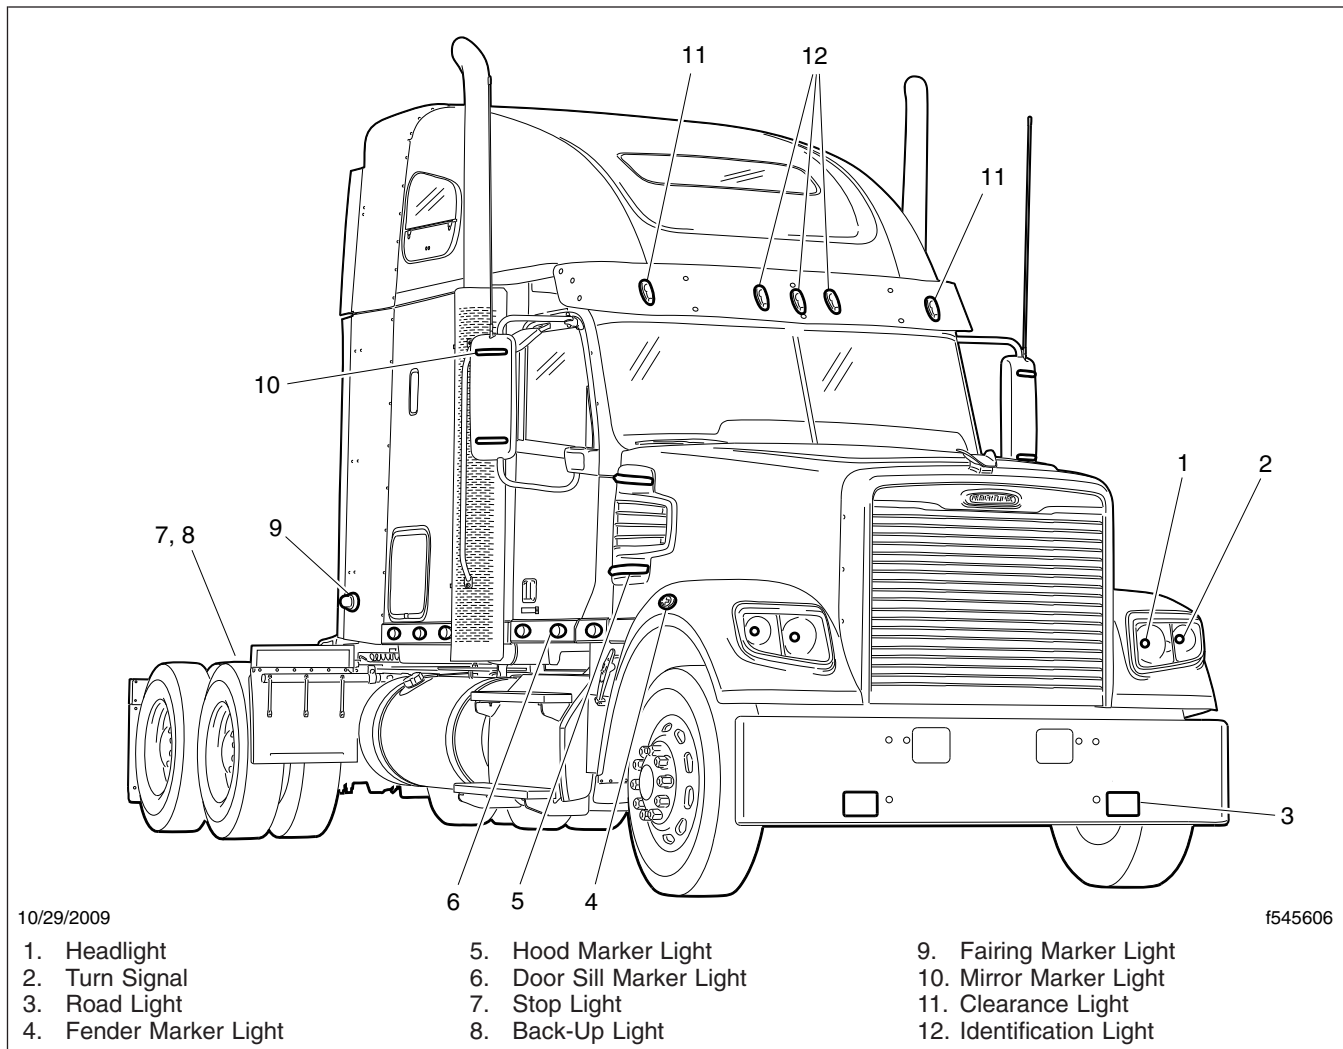

Fig. 20.6, Exterior Lights
11. Check the operation of all exterior lights. See **Fig. 20.6**.